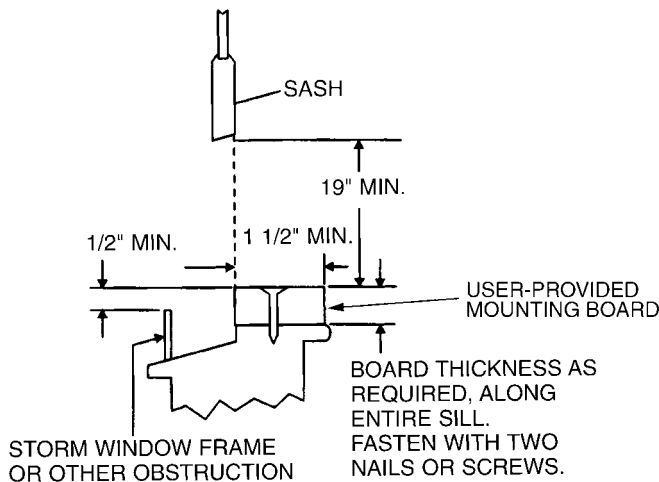

FIGURE 9 — STORM WINDOW APPLICATIONS
If the window is blocked by a storm window frame and the storm window frame cannot be removed, a mounting board (field provided) will need to be added to the window sill. The air conditioner needs to be pitched downward to the back in order for condensate to drain properly. The frame of the storm window (or any other obstruction) must be at least $\frac{3}{4}$ -in. lower than the window sill. If the storm window frame is not at least $\frac{3}{4}$ -in. below the window sill, then a mounting board will need to be added to raise the height of the window sill. See Fig. 9. The board will need to be provided and cut by the installer.
1. The wood mounting board should be a minimum of 1 1/2-in. wide and should run the length of the window. The thickness of the mounting board is dependent on the height of the storm window frame. The mounting board should raise the front of the air conditioner high enough so that the unit will be pitched downward at least $\frac{5}{8}$ -in. when the back of the unit is resting on the storm window frame. See Fig. 9.